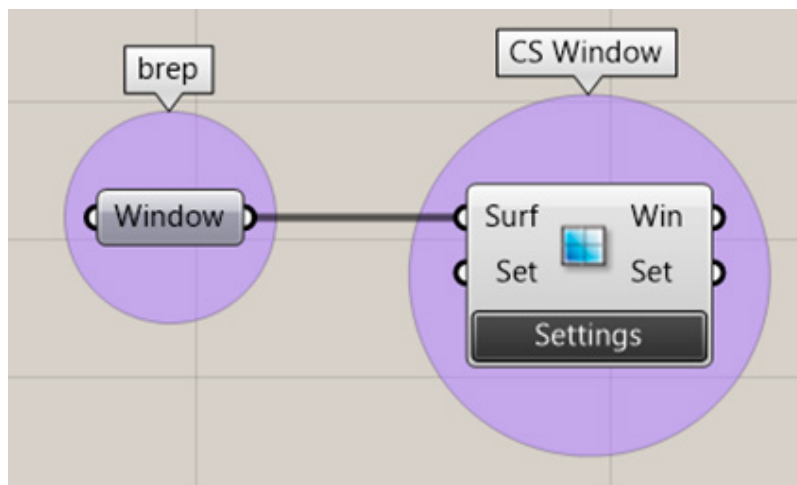

Figure 2 Connect "brep" containing window geometry to "CS Window" component
- Step 2 Set up you window: Assign the window geometry to a *brep* or similar in grasshopper and connect that to the "CS Window" component from the ClimateStudio tab in grasshopper (See figure 2).